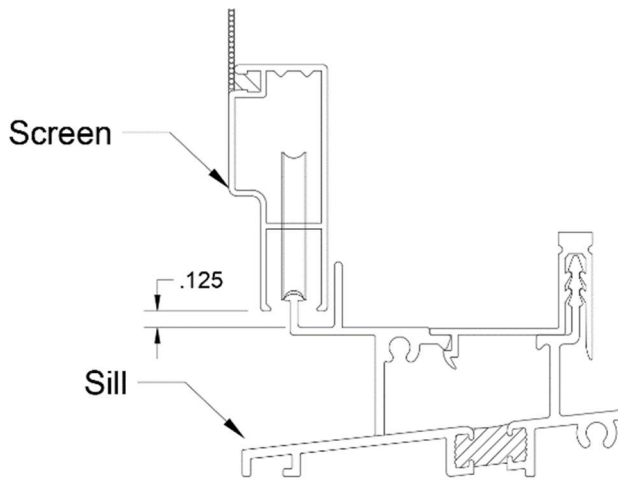

Figure 15
9.3 Using a screwdriver (#2-Robertson or #2-Phillips) adjust the rollers on the bottom of the screen up (clockwise) to align the screen with a 1/8" gap from bottom of screen to bottom of sill (Figure 15). Adjust the top rollers just enough to snug the screen in the top track and allow easy rolling.